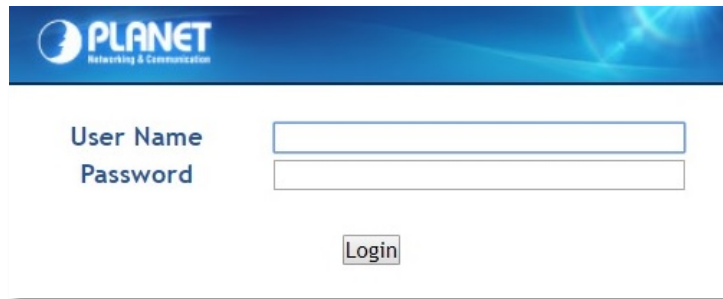

Figure 4-1-2: Login Screen
2. When the following login screen appears, please enter the default username "**admin**" with password "**admin**" (or the username/password you have changed via console) to log in the main screen of **Industrial Industrial Serial Server**. The login screen in Figure 4-1-2 appears.